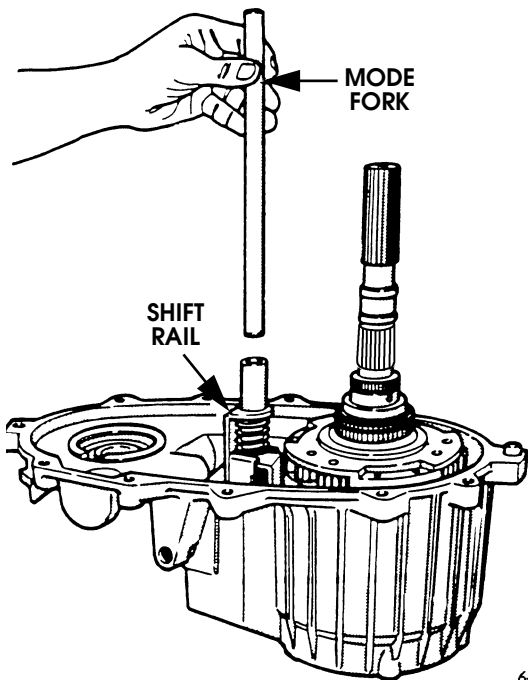

Figure 5-153: Shift Rail Installation
18. Install shift rail. Install rail through mode fork, range fork, and into case bore and install lock pin (Figure 5-153).